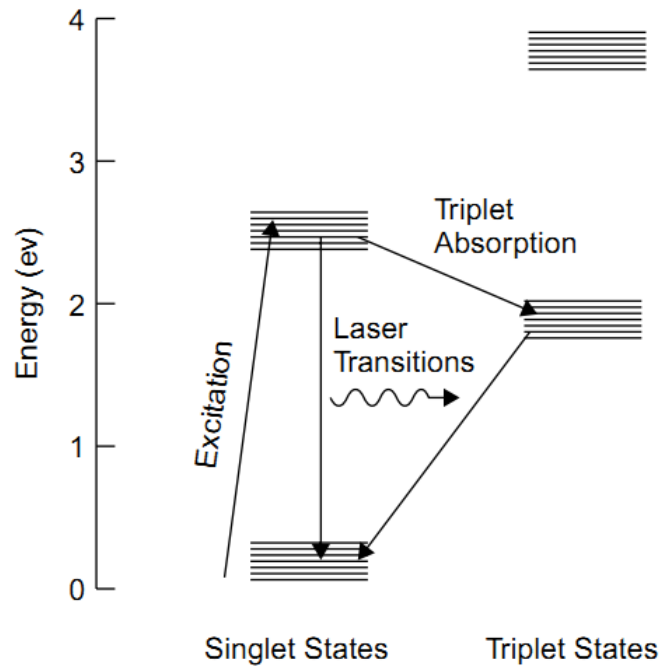

Figure 1: Laser dye energy levels.
- Lasing begins when incident energy is absorbed by the dye, exciting it from the lowest singlet state to a high-energy level within the upper singlet band, as shown in Figure 1.
- An alternative pathway exists to foil laser action in the triplet states of the dye, also shown on Figure 1.